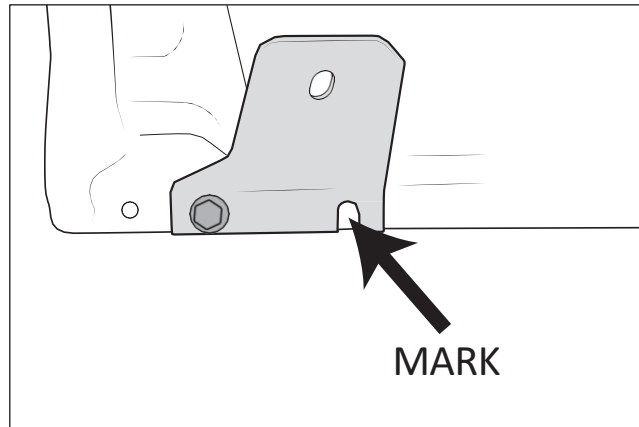

Figure 11: Driver-side shown
- A. Loosely install the bracket in the rear-most bolt location of the factory fender using the factory M6 bolts (fig. 11).